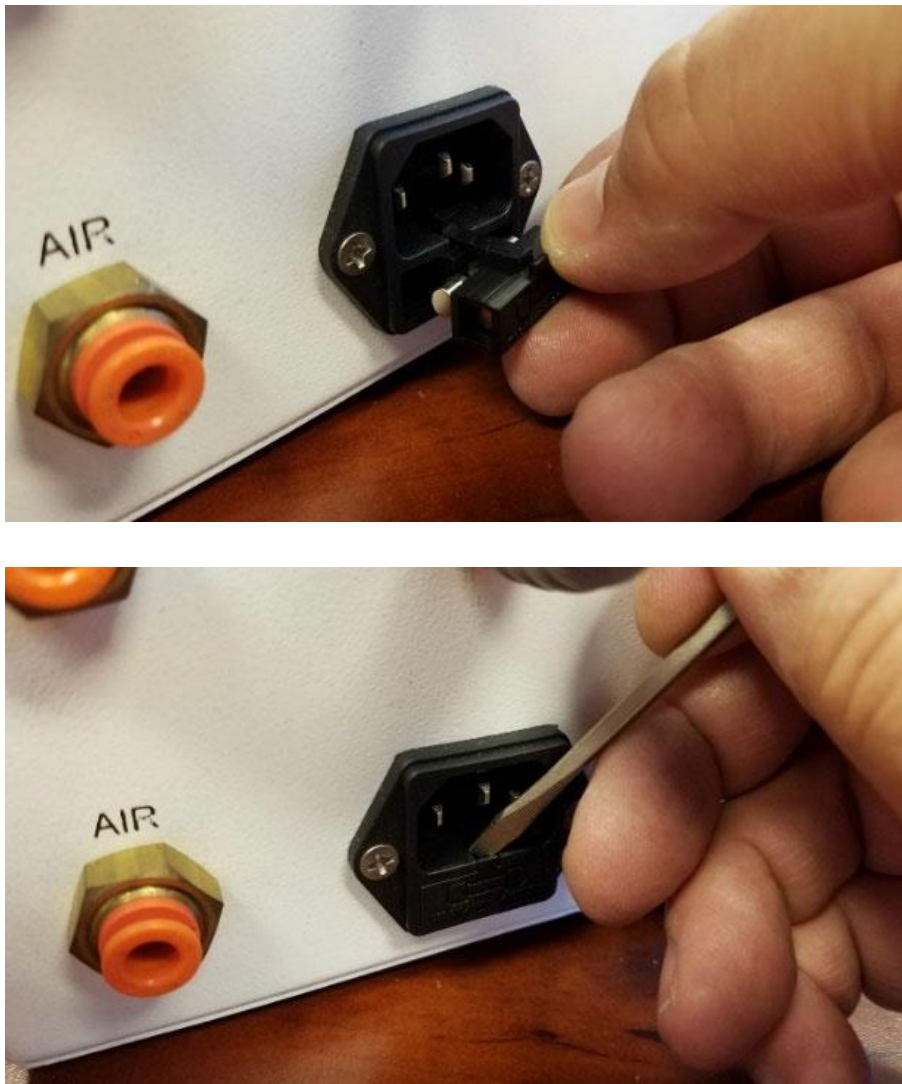

Figure 16
2. Fuse drawer has the spare included. See figure 16.